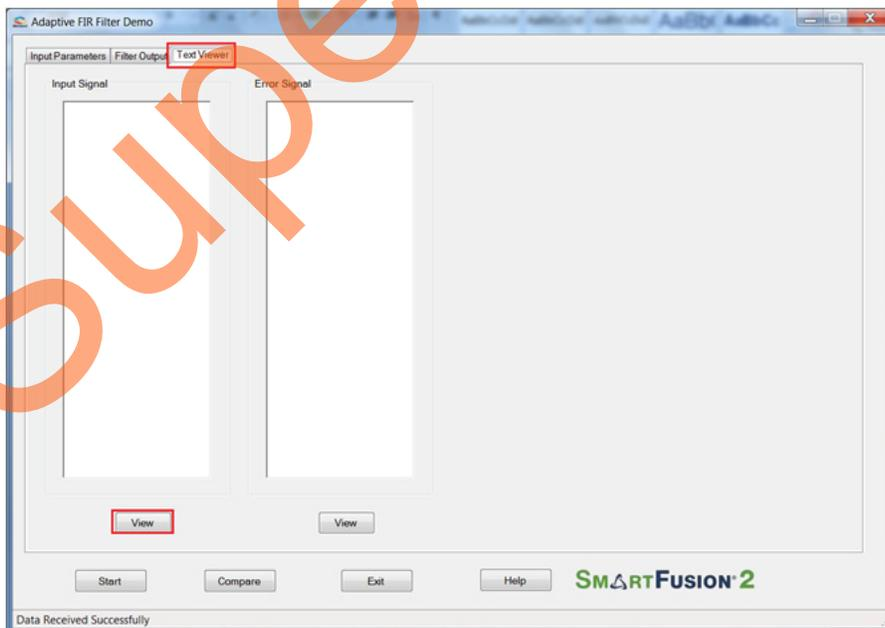

Figure 28 • Text Viewer
- The input signal and error values can be viewed in the **Text Viewer** tab. Click the **Text Viewer** tab and then click the corresponding **View** shown in Figure 28.